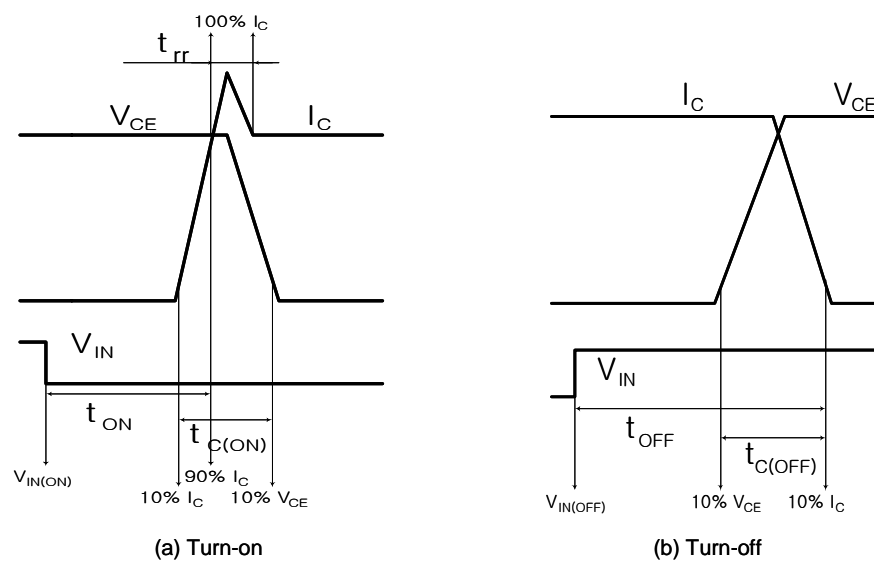

Fig. 4. Switching Time Definition
2.  $t_{ON}$  and  $t_{OFF}$  include the propagation delay time of the internal drive IC.  $t_{C(ON)}$  and  $t_{C(OFF)}$  are the switching time of IGBT itself under the given gate driving condition internally. For the detailed information, please see Fig. 4.